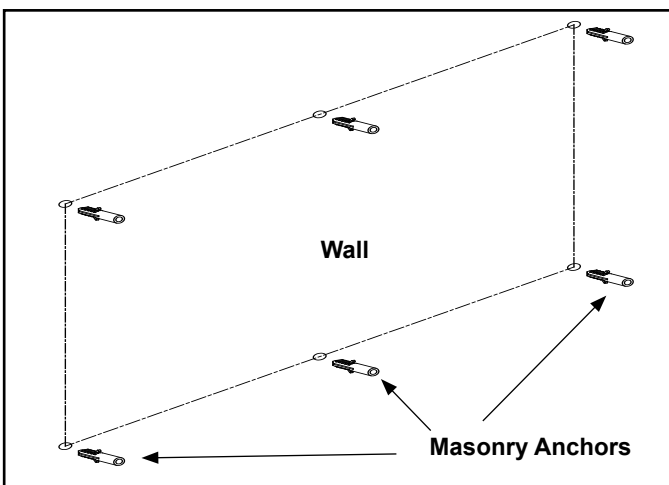
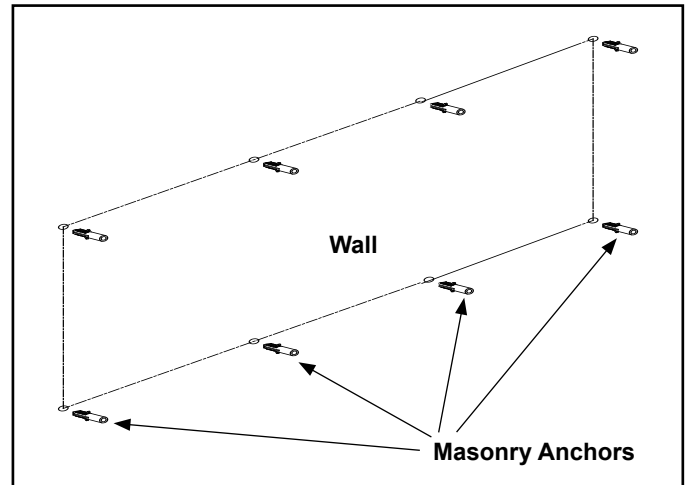
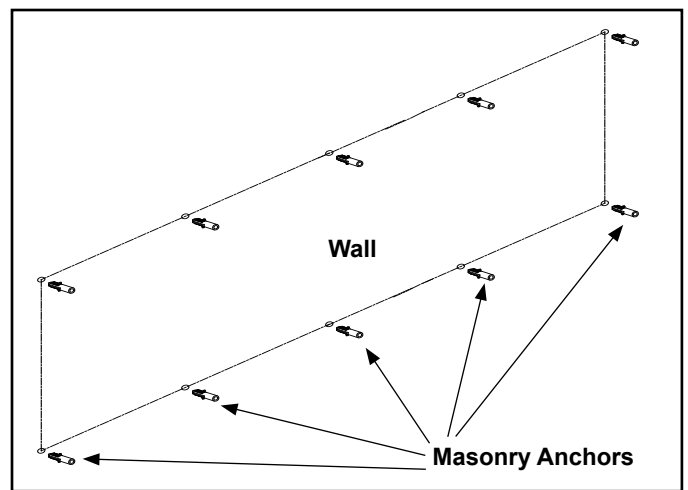

Figure 4.7 (SF-WM58) Masonry Anchor Placement
Figure 4.8 (SF-WM70) Masonry Anchor Placement
Figure 4.9 (SF-WM94) Masonry Anchor Placement
- In the marked locations, drill 5/16 in. diameter x 2 in. deep holes. See Figure 4.7 (SF-WM58), Figure 4.8 (SF-WM70) or Figure 4.9 (SF-WM94).